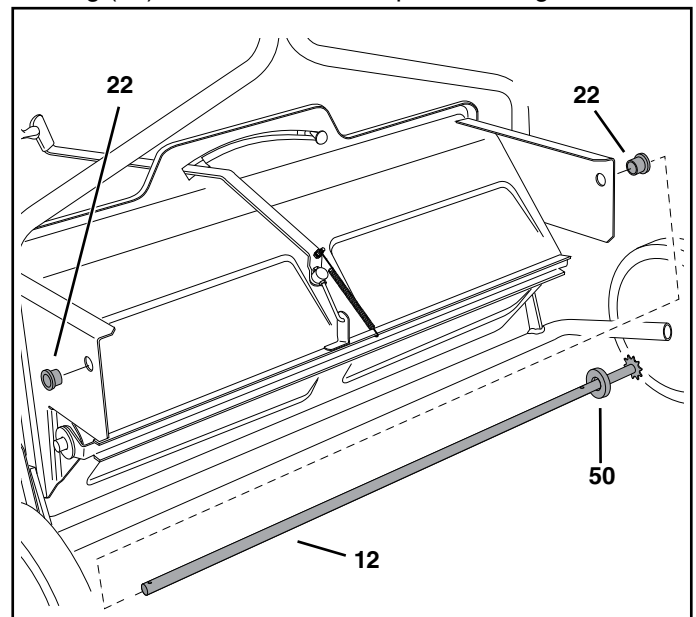

FIGURE 13
- Press flanged bearings (22) into both of the end plates. See figure 13.
- Place the 1/4" thick spacer (50) onto the spike disk shaft (12) and then insert the shaft through the flanged bearing (22) in the left hand end plate. See figure 13.